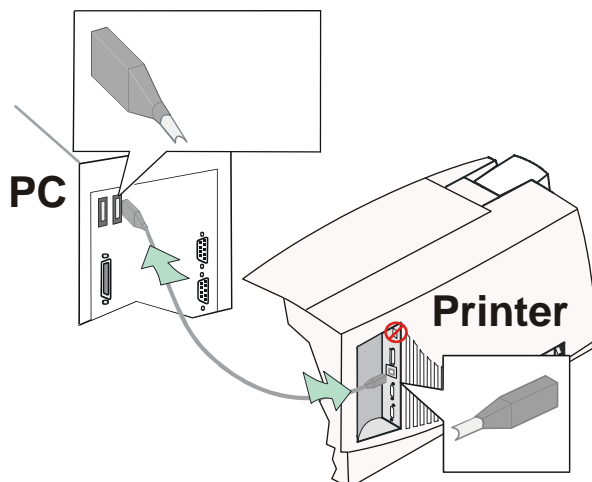

Figure 7-7: Connect the USB cable
- 1 Attach the flat end of the USB cable to the USB port on the PC (see Figure 7-7) or to a device attached to the PC through a USB port.